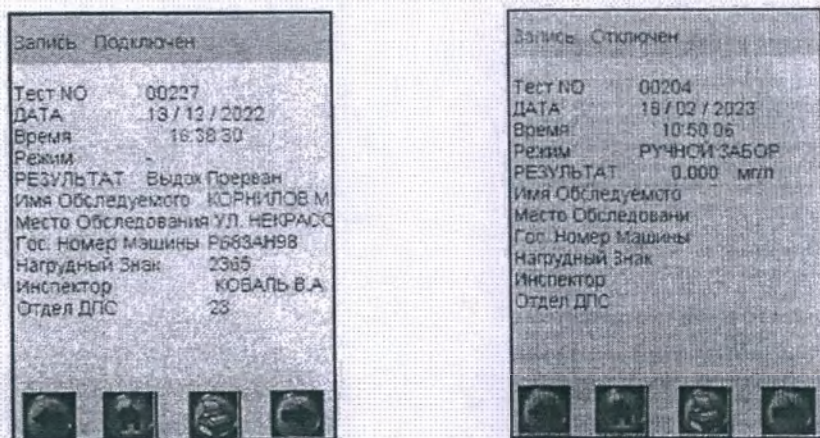
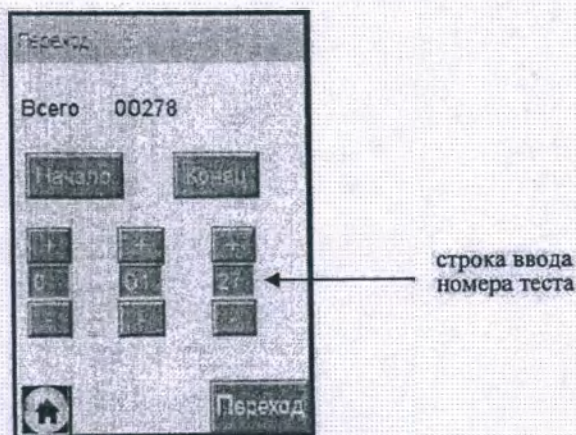

Figure 25 – Viewing test memory
Figure 26 – Quick transition to the required protocol
Record” window will appear on the touch screen with the protocol of the last measurement or the last viewed protocol (Figure 25).
2.13.3 If measurements were made in measurement mode with data entry, the measurement results are stored in memory together with automatically saved data (in accordance with 1.4.6 of this OM) and with data entered into the fields intended for filling in (Figure 25, left).
2.13.4 If measurements were made in the measurement mode without entering data, only the measurement results are stored in memory together with automatically saved data (according to 1.4.6 of this manual) (Figure 25, right).
– while in the “Record” window (Figure 25), press and hold the service button and briefly press the on/off button, release both buttons; a window for switching to the required protocol will appear on the screen (Figure 26);